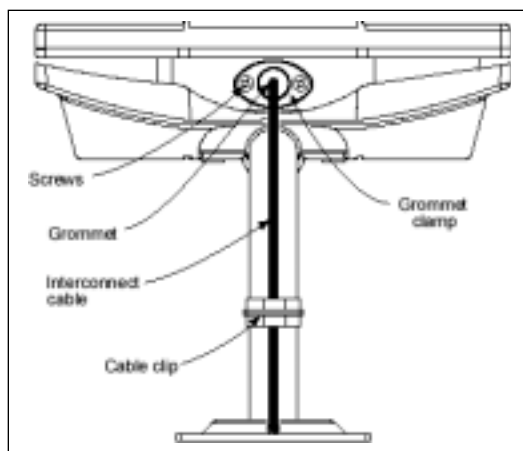

Figure 7-12 Interconnect Cable Installation to Subscriber Unit -- Bottom View
5. Secure the interconnect cable to the mounting pole with the cable clip, as shown in Figure 7-12.